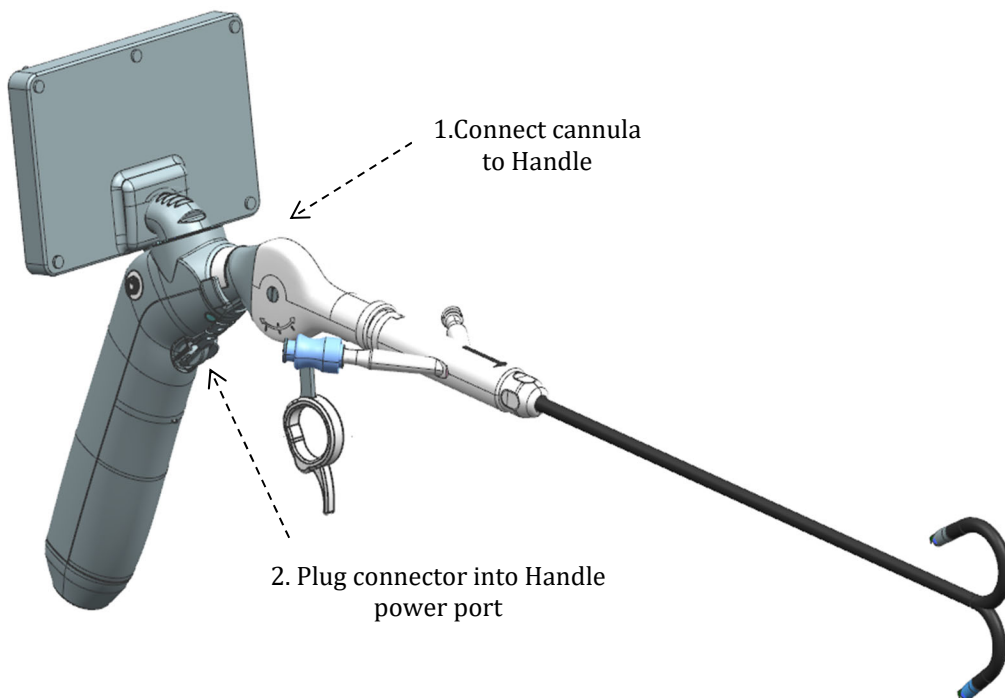

Figure 2. Attach Cannula to Handle
5.2.4. Once cannula is connected, insert the male USB connector of the disposable cannula into the USB female connector on the handle. See Figure 2.
- 5.3.2. Attach the cannula to the handle. See figure 2. (For detailed instructions on connecting the cannula refer to section 5.2).